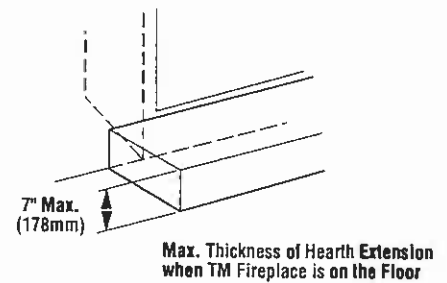

Figure 57
**WARNING: FIREPLACE MUST BE RAISED IF HEIGHT OF HEARTH EXTENSION EXCEEDS 7" (178 MM) FOR THE TM-4500 OR 2  $\frac{3}{8}$ " (60 MM) FOR THE TMC-4500 (FIGURES 57 AND 58).**